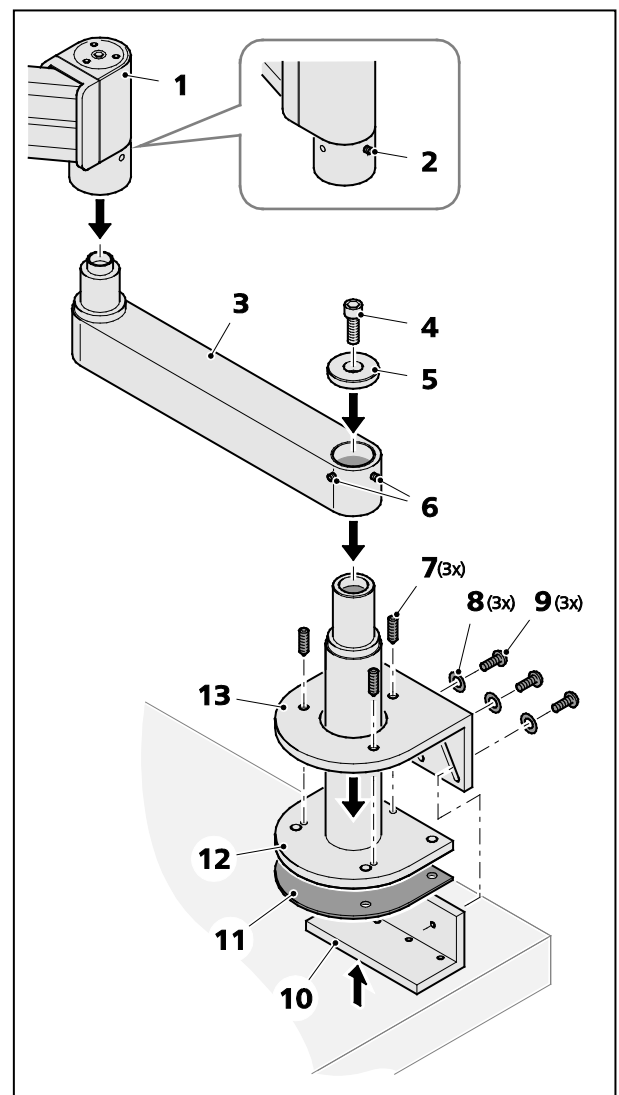
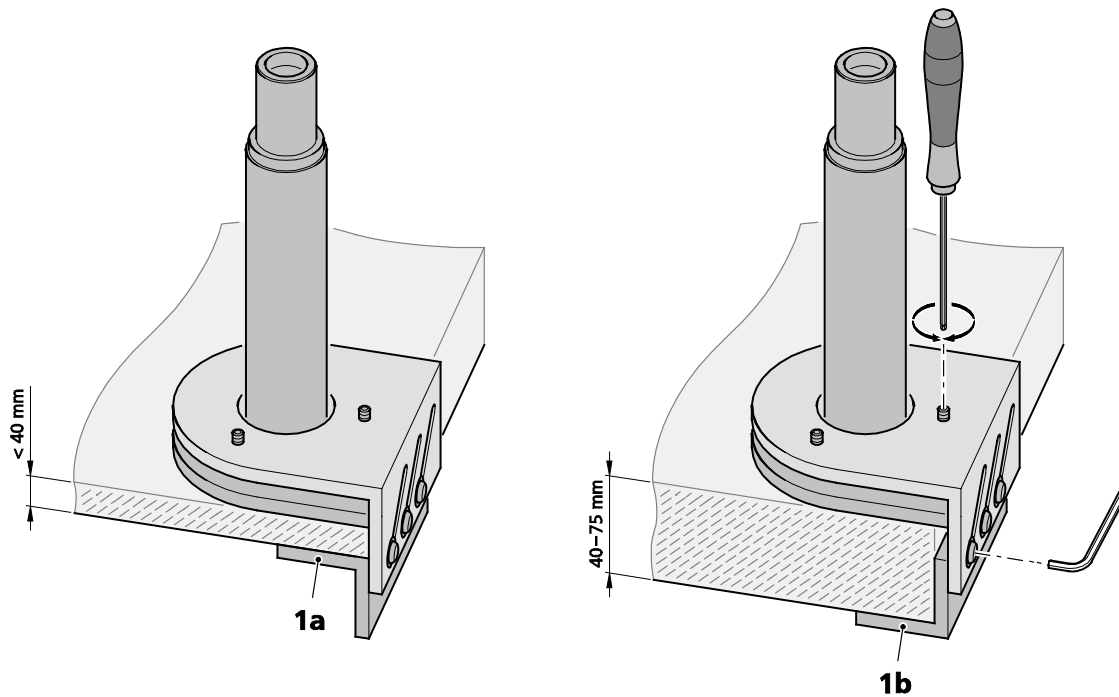

Fig. 5 Clamp the table attachment and mount the traverse and articulated suspension arm
Fig. 6 Mounting position of the bracket depending on the thickness of the tabletop
- Position the table attachment (Fig. 5/12) together with the self-adhesive protective plate (Fig. 5/11) at the desired point on the table (edge).
- Slip table clamp (Fig. 5/13) with $\varnothing 70$ mm over the table attachment and put it down.
- Screw three centering screws M8 mm (with Allen key 4 mm) (Fig. 5/7) into the table clamp until the countersinks are just fixed to the table attachment device.
- Position the angle plate (Fig. 5/10) from below between table attachment and table clamp (without lifting the centering screws (Fig. 5/7) out of the countersinks) and press it upward against the table plate.
Choose the position of the angle plate (Fig. 5/10) dependent on the thickness of the table, see Fig. 6. The elongated holes in the table clamp (Fig. 5/13) ensure that you can use the table attachment on tabletops of up to 75 mm thickness.
- Use an Allen key 4 mm to tightly screw the table clamp and angle plate together by means of three fillister-head screws M6 x15 mm (Fig. 5/9) and washers (Fig. 5/8).
- Turn the three centering screws (Fig. 5/7) into table clamp (Fig. 5/13) until the table attachment (Fig. 5/10) is firmly locked, see also Fig. 6.
Using the traverse extends the swivel range of the stand and the object can be scanned more favorably due to the two pivot joints. In addition, the mobility (ease of motion) of the pivot joints can be adjusted or inhibited as required using the clamping screws on the traverse (Fig. 5/6) and articulated suspension arm (Fig. 5/2).
- If the traverse (Fig. 5/3) is used, mount it on the table attachment (Fig. 5/12) analogous to Section 3.1 using lock washer (Fig. 5/5) and screw (Fig. 5/4).
- Tighten the clamping screws (Fig. 5/6) as necessary.
- Now it may be necessary to slightly slacken the clamping screw (Fig. 5/2) of the articulated suspension arm (Allen key 3 mm).
- Insert the articulated suspension arm (Fig. 5/1) onto the pivot pin of the traverse (Fig. 5/3) (or table attachment).
- Tighten the clamping screw (Fig. 5/2) as necessary. The tighter the clamping screw, the more the mobility (ease of motion) of the pivot joint is inhibited (up to secure hold).